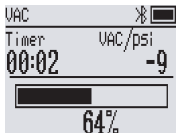

Figure 7 Vacuum test interface
5.The interface (Fig. 7) displays the current pressure value of the system, the vacuum degree of the system and the timing of entering this interface.